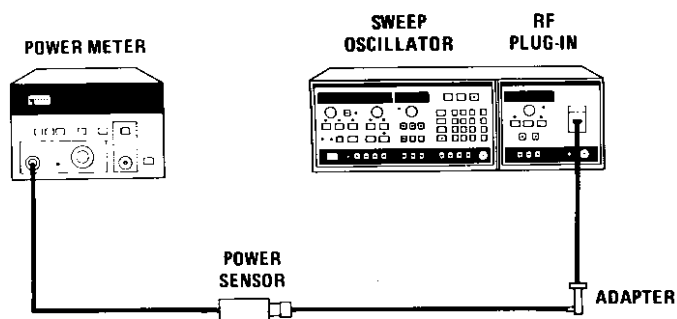

Figure 5-23. Power Calibration Test Setup
1. Connect equipment as shown in Figure 5-23. Ensure HP 8350 [L1 MOD] is off. Select HP 8350 [MAN] sweep. Manually sweep through the band and select a frequency where the power is approximately in the center of the power variation range. Select [CW] at that frequency.